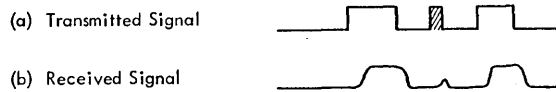

FIGURE 1-30. TELEGRAPHIC LINE DISTORTION
4. Characteristic Distortion. The normal and predictable distortion of data bits produced by inductive and capacitive constants of the line as well as distortion introduced by the sending terminal and regeneration points is called "characteristic distortion". Figure 1-30 (a) depicts a type of characteristic distortion generated by the sending terminal.
The shortened bit (shaded) can be a result of dirty or maladjusted sending contacts. Figure 1-30 (b) shows the resultant signal as it would be received if inductive and capacitive characteristic distortion were included.